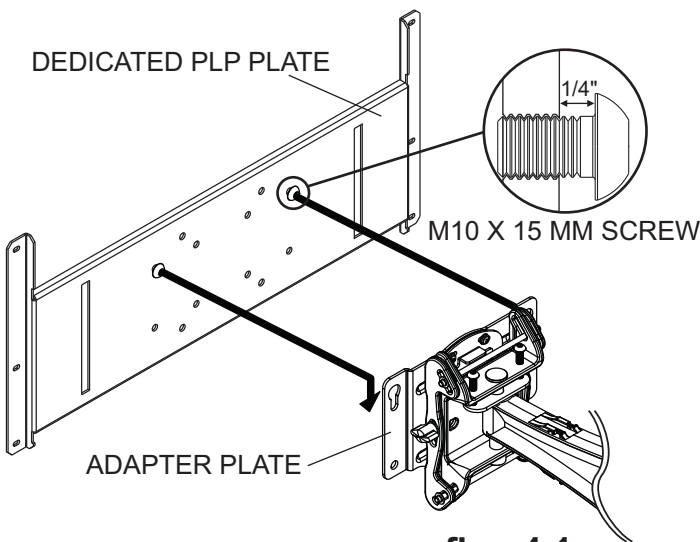

fig. 4.1
- Do not tighten screws with excessive force. Overtightening can cause damage to mount. Tighten M10 x 15 mm screws (E) to 40 in. • lb (4.52 N.M.) maximum torque.
**4** For Dedicated PLP Plate (not evaluated by UL): Refer to PLP model instruction sheet for attachment of dedicated PLP plate to screen. Install two M10 x 15 mm screws (provided with dedicated PLP plate) into top two holes of dedicated PLP plate leaving 1/4" of exposed thread as shown in figure 4.1.